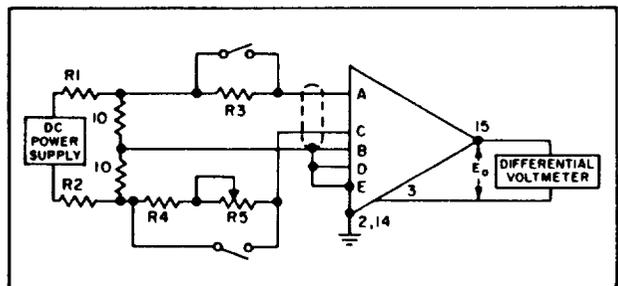

Figure 6-9. Input Resistance Test Circuit
- 1) Connect the amplifier as shown in Figure 6-9. Select R1 and R2 to provide the necessary attenuation for the selected amplifier gain (R1 and R2 are the same value). R3 and R4 are 50,000 ohm $\pm 1\%$ wirewound resistors. R5 is a 10,000 ohm wirewound trimpot. It may be necessary to place R5 in series with R3 instead of R4 (as shown) depending on the characteristics of the amplifier under test. The output meter is a d-c differential voltmeter.